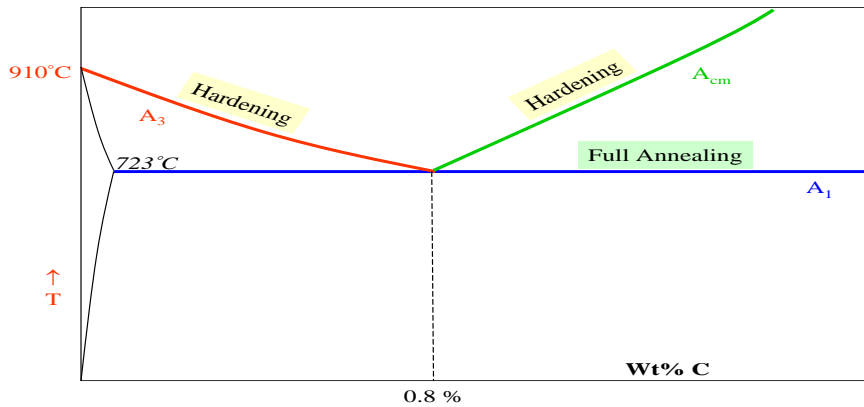

Fig.8. shows hardening takes place
- The transformation to Martensite is usually not complete and the sample will have some retained Austenite. See below fig.8.